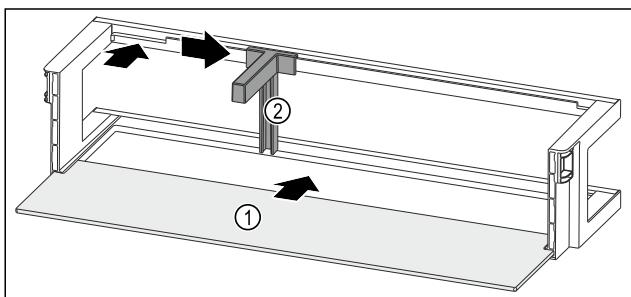

Fig. 87 Door rack with shelf
- ▶ Push the shelf Fig. 87 (1) into the side recesses.
- ▶ Insert the bottle holder Fig. 87 (2) in the recess.
- ▶ Push the bottle holder Fig. 87 (2) to the desired position to the side.